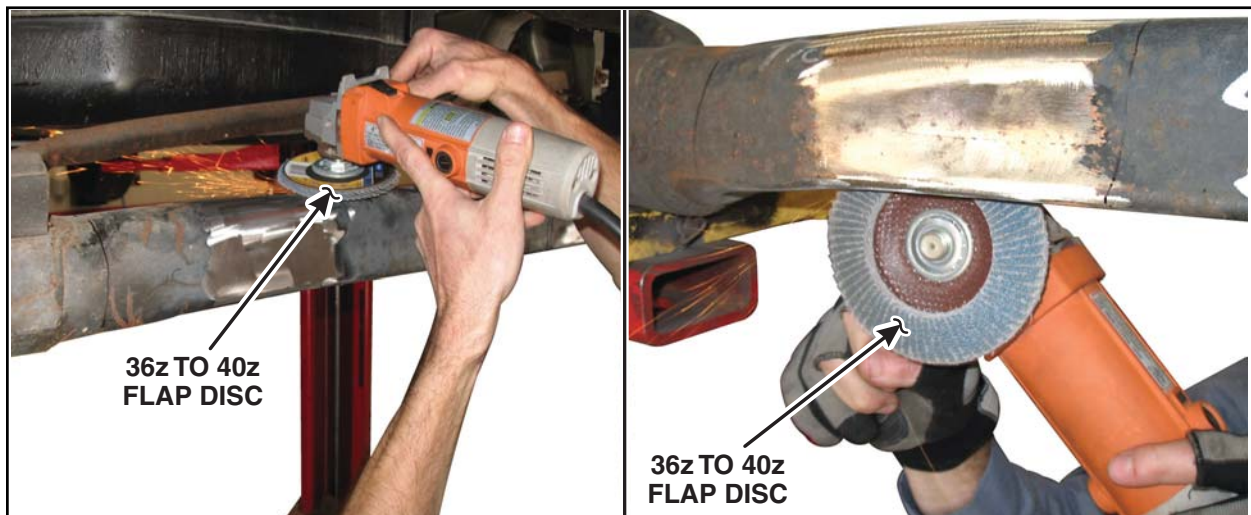

FIGURE 4
- Using a 36z to 40z flap disc or equivalent, grind the rear axle in the marked areas. Remove all E-coat and rust. Metal should be shiny in appearance. (Do not try to remove tool marks or marks caused by deep stone pecking or pitting.) See Figure 4.